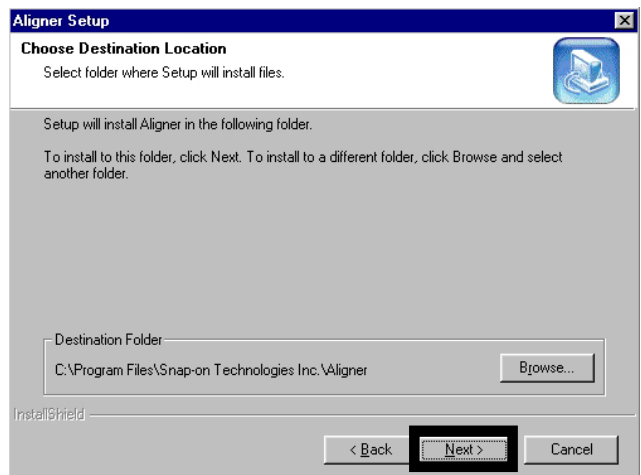

Figure 3-6
9. The default designation for the alignment software is **"C:\Program Files\Snap-on Technologies\Aligner"** click on **<NEXT>** to proceed with software installation. (Figure 3-6)